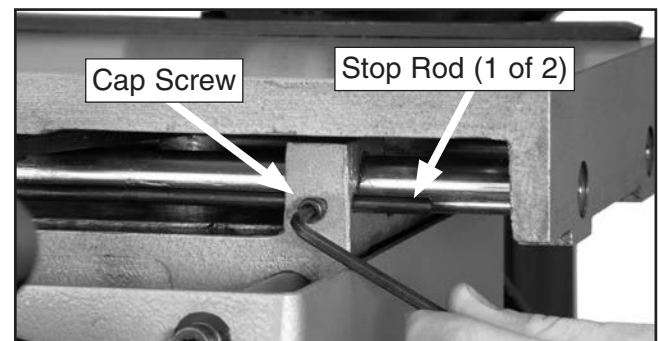

Figure 19. Front stop rod adjustments.
1. Loosen the cap screws that secure the front stop rods (see **Figure 19**), and move the rods left or right to set the maximum horizontal movement.